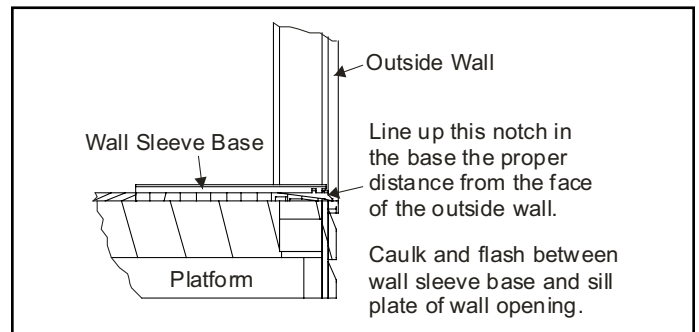

Figure 8. Positioning Wall Sleeve
3. If mounting angles have not been installed, position wall sleeve base in wall opening as shown in Figure 8.